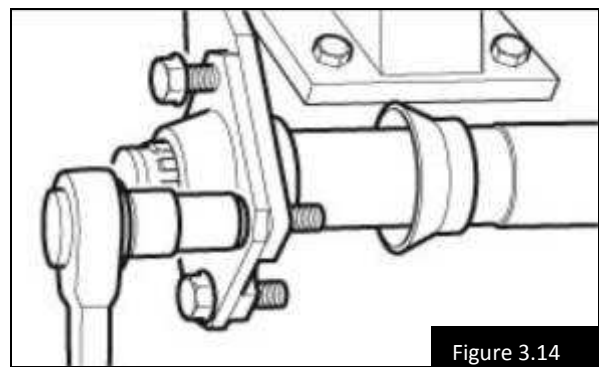

Figure 3.14
- Remove the Cam shaft supporting bracket mounted to the housing. Figure 3.14